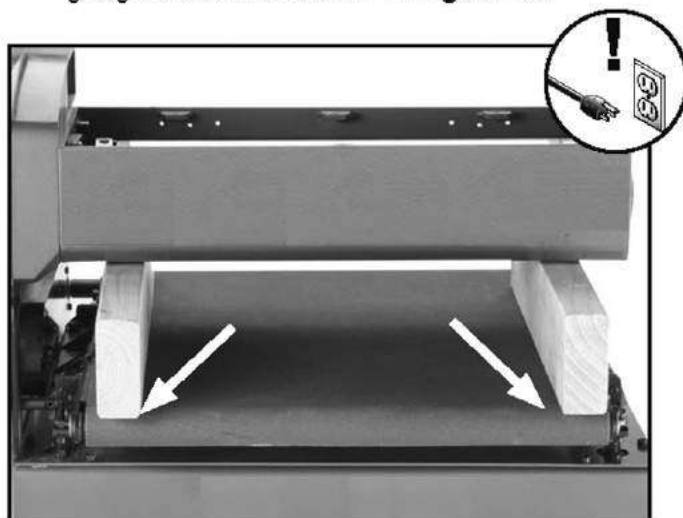

Figure 46. Example of gauge blocks placed under drum.
2. Remove sandpaper from drum and place gauge blocks as shown in **Figure 46**.